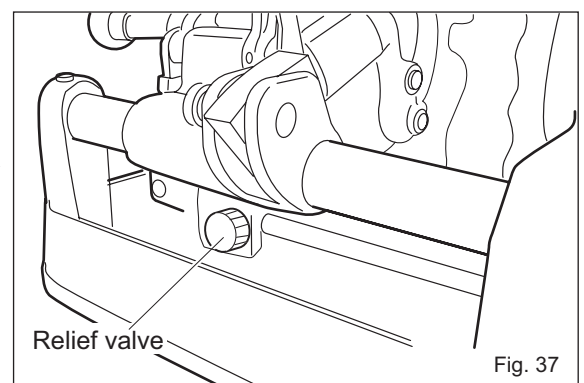

Fig. 37
- Turn the relief valve to adjust to the most suitable amount of oil needed. (Fig. 37)